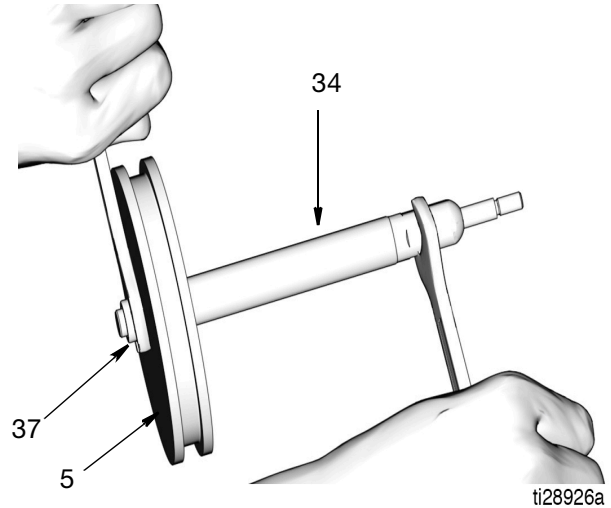

FIG. 32
7. Install the nut (37) over the end of the piston rod (34). Use two wrenches, working in opposite directions to tighten the nut. Secure one open end wrench to flats of piston rod and use the second wrench to tighten the nut. Torque nut to 13 to 15 ft. lbs (17.6 to 20.3 N.m) (FIG. 32).